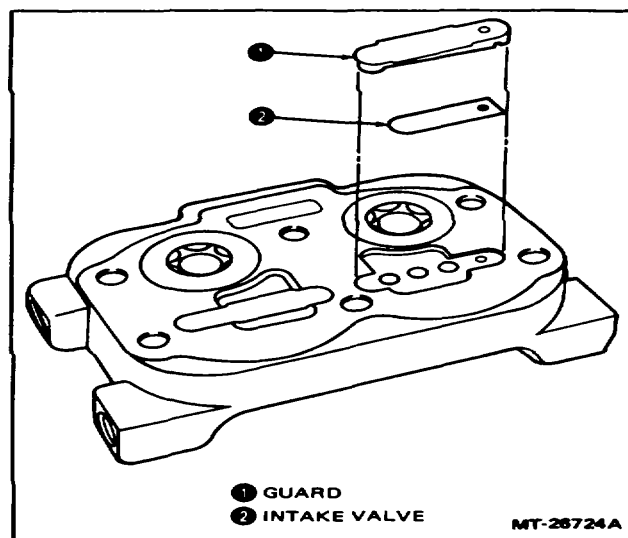

Figure 14 - Intake Valve Assembly
5. Position new intake valve on the intake valve guard pin and place both guard and valve in the cylinder head cavity (Figure 14). Use a punch and stake the guard assembly into the cavity. Repeat the procedure for the second intake valve assembly. The intake valve guard should not extend more than .1778 mm (.007 in.) above the cylinder head surface.